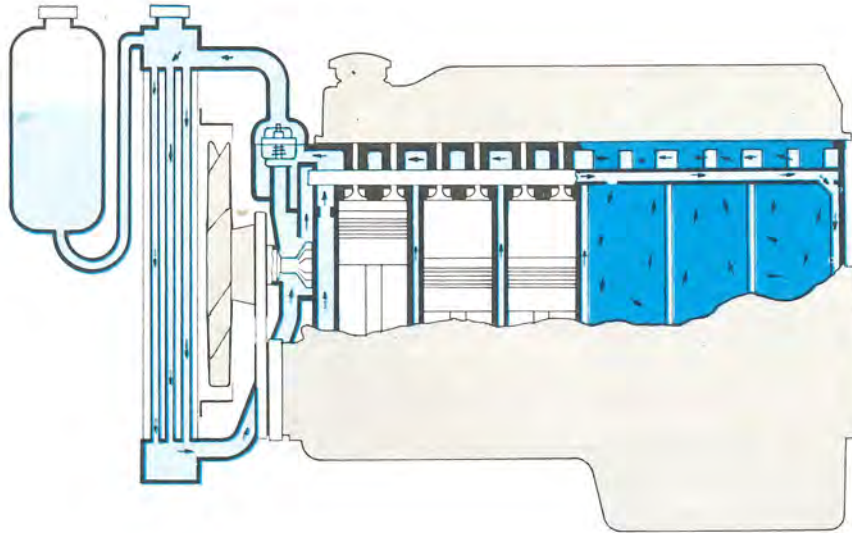
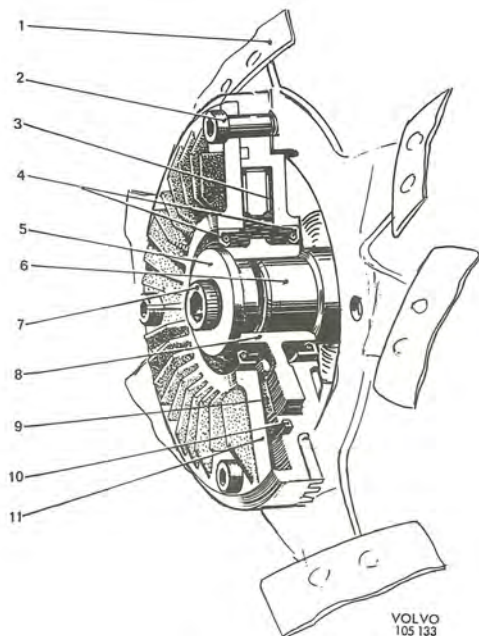

Fig. 2-147. Sealed cooling system
Fig. 2-148. Fan coupling
The engine is water-cooled and the cooling system is of the sealed type, see Fig. 2-147. A fan cover mounted on the radiator improves the cooling function of the fan. The fan is speed-regulated, a so-called slip-coupling type (see Fig. 2-148), the function of which is to ensure that the fan blades do not exceed a certain speed even if the engine speed is exceeded. See Fig. 2-98. The six fan blades are mounted asymmetrically to keep down the noise level. The fan coupling consists of the casing (11, Fig. 2-148) in which the fan blades (1) are secured with the bolt (2). The casing (11) has two halves which, however, cannot be separated for repairs, the fan coupling then being replaced complete. The hub (8) has a light fit on the water pump flange (6) and is locked by means of the center bolt (7). The hub is provided with a slip disc of friction material (9) surrounded by oil. During idling and at low speeds, the slipping is insignificant, so that the fan provides an air current for satisfactory cooling. When the ingoing speed (that of the water pump) exceeds about 3500 r.p.m., the slipping